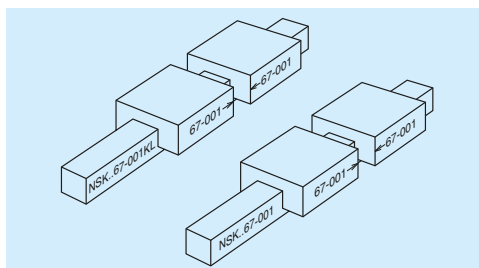

Fig. 10.30 When two rails have different reference numbers
- When two or more rails of different reference numbers are used in a single set, the rails and slides have the same serial number. In this case, when slides are removed from the rail, it is unclear which rail each slide was previously installed on. When removing ball slides from the rail for an unavoidable reason (**Fig. 10.30**), sufficient caution is required.